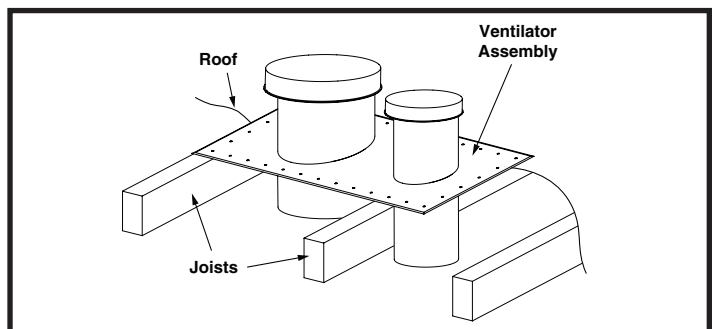

Figure 4. Ventilator Roof Alignment
3. Cut approximately a 7-inch diameter hole in ceiling directly above the duct fitting. Avoid ceiling joists and other obstructions in the ceiling cavity and keep debris from falling into furnace. See Figure 4.
NOTE 1: The roof cap assembly should be located as closely as possible to the center of the home, allowing connection of the fresh air intake to the furnace using Field Supplied Flexible Duct. See Figure 4.